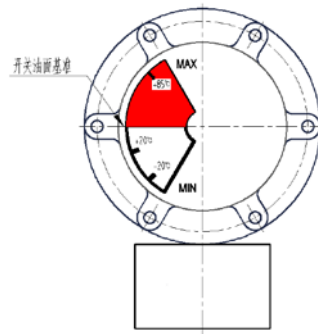

Fig. 11 Oil level indicator
6. Correct oil level position (See fig. 11);